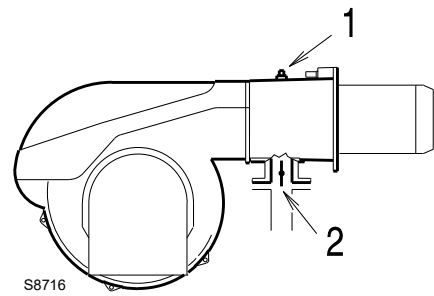

Fig. 24
Gas pressure measured at the test point 1)(Fig. 24), with:
Pressure loss at gas butterfly valve 2)(Fig. 24) with maximum opening: 90°.
- Subtract the combustion chamber pressure from the gas pressure measured at test point 1)(Fig. 24).
To know the required gas pressure at test point 1)(Fig. 24), set the maximum output required from the burner operation, then:
- Read, on the right (column 1) the socket pressure 1)(Fig. 24).
pressure required at test point 1)(Fig. 24).